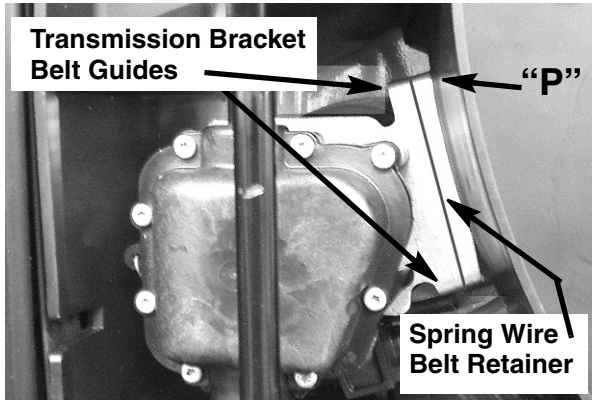

FIGURE 4
7. Refer to Figure 4. Working from the rear of the mower carefully remove the existing belt from the transmission pulley. When removing the belt through the baffle channel a spring wire belt retainer, used on early production models, may dislodge from the
13. Replace the spring wire belt retainer, if so equipped, onto the transmission bracket as shown in Figure 4.